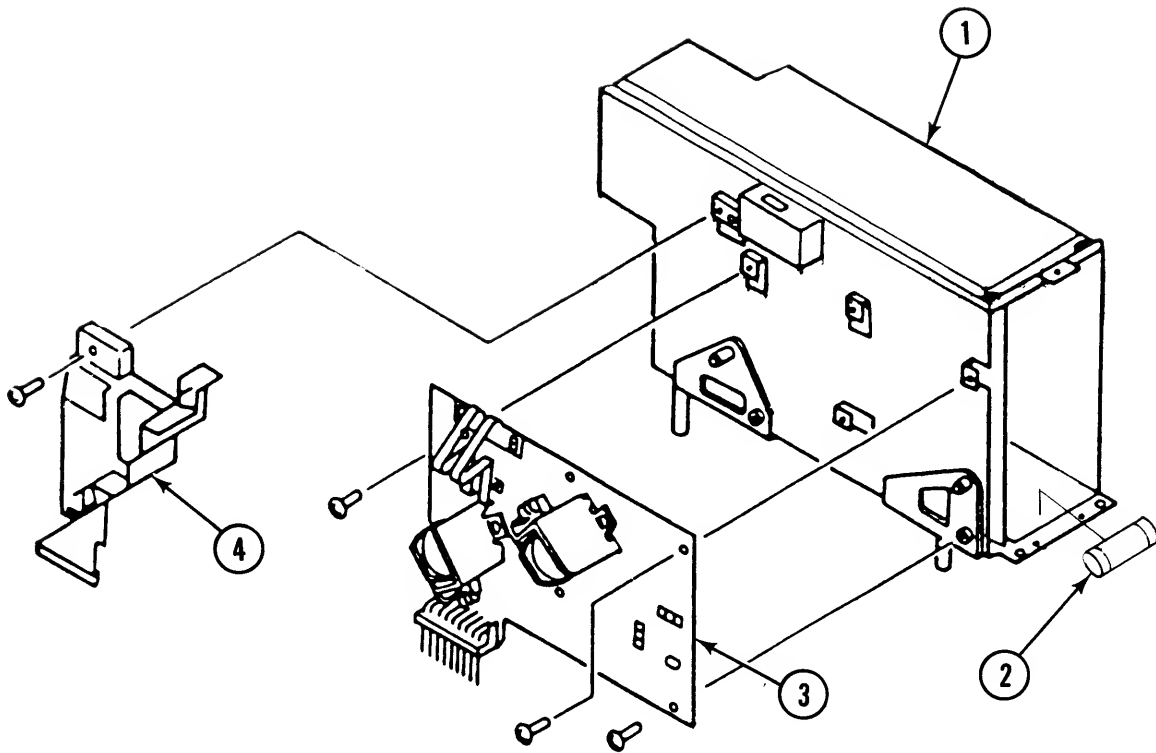

FIGURE 23
□ ELECTRICAL COMPONENTS ASSEMBLY (Figure 23)